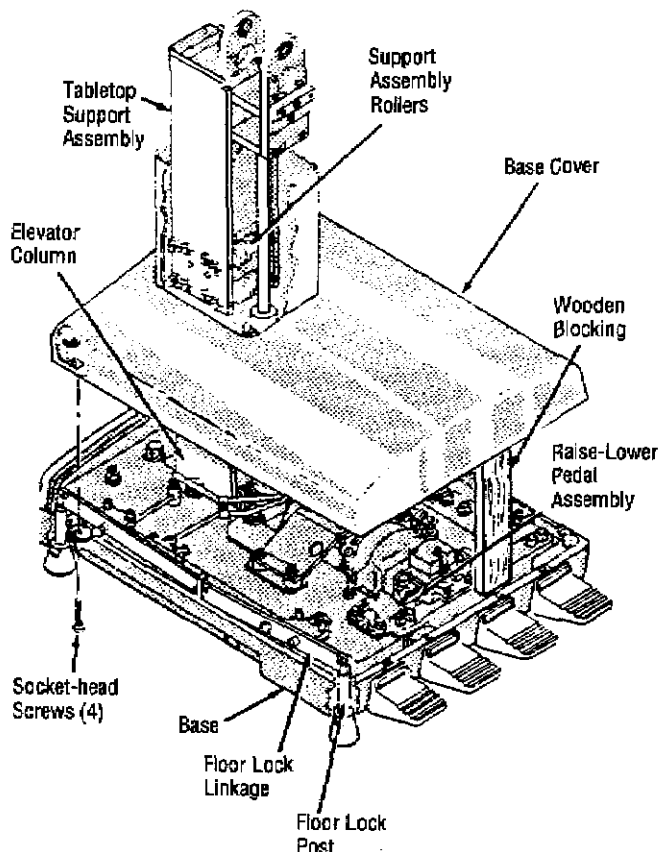

Figure 6-1. Base Assembly
1. Service base assembly as follows (see Figure 6-1):
2. Service lift assembly (see Figure 6-1) as follows: